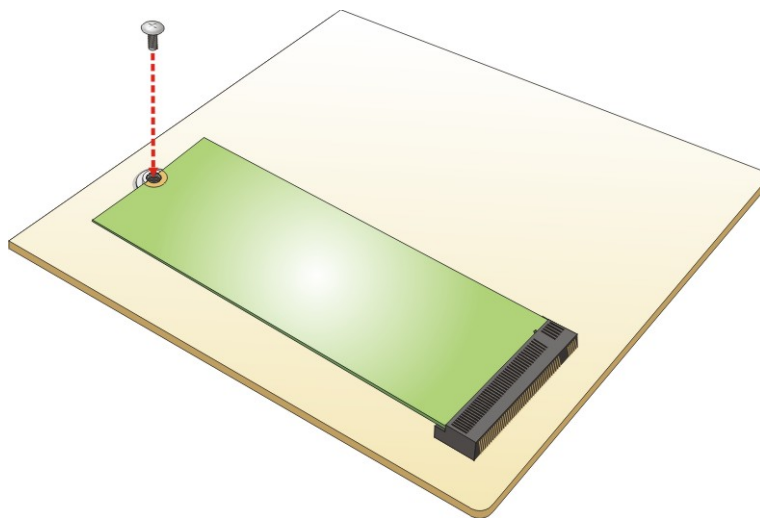

Figure 3-15: Securing the M.2 Module
Step 5: Push the M.2 module down and secure it with the previously removed retention screw (**Figure 3-15**).